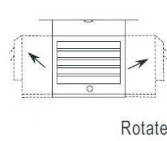

Figure 5
1. To turn the unit horizontally when it has been installed with a single lag bolt (as shown in figure 3a), simply turn the entire heater as needed. (as shown in figure 5 – rotate). The unit cannot be turned horizontally if it has been installed with 2 lag bolts.